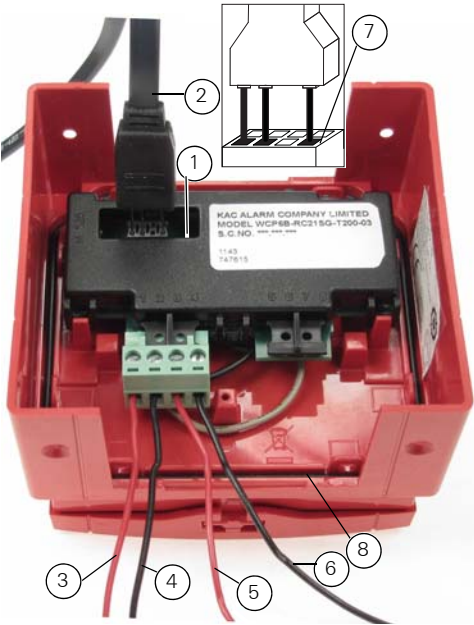

Fig. 2: MCP830M Rear View and Wiring Information
The MCP830M is programmed with the address prior to installation using an address programming tool. The associated ancillary programming lead plugs into the programming port (see items 1 and 2 in Fig 2). Refer to Fig 2 for proper orientation.
Ensure that the pins of the ancillary programming lead are inserted completely into the lower row of the programming port (see item 7 in Fig 2) for effective communication with the Address programming tool.
- 3 Connection to the MCP830M is made via the 4 way terminal connector as shown in Fig. 2, ensuring correct polarity.
- All conductors to be free of earths. For typical wiring configuration see Fig 2.